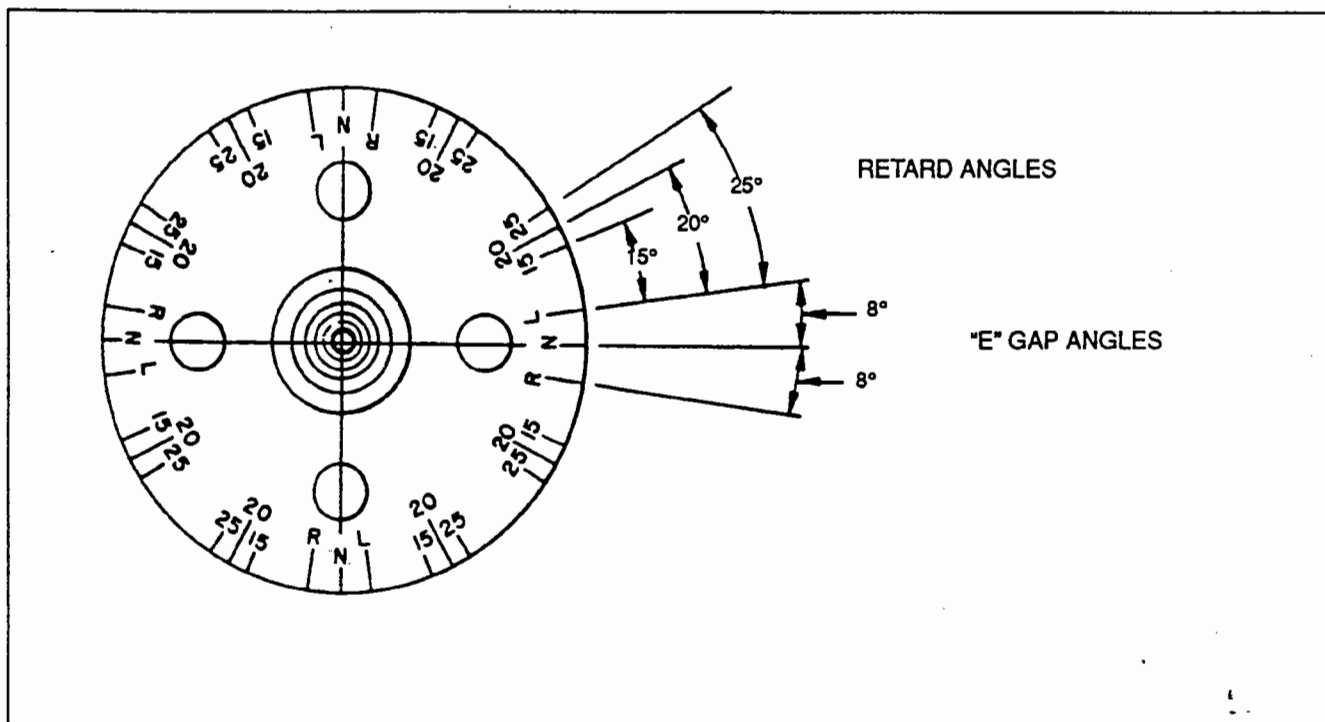
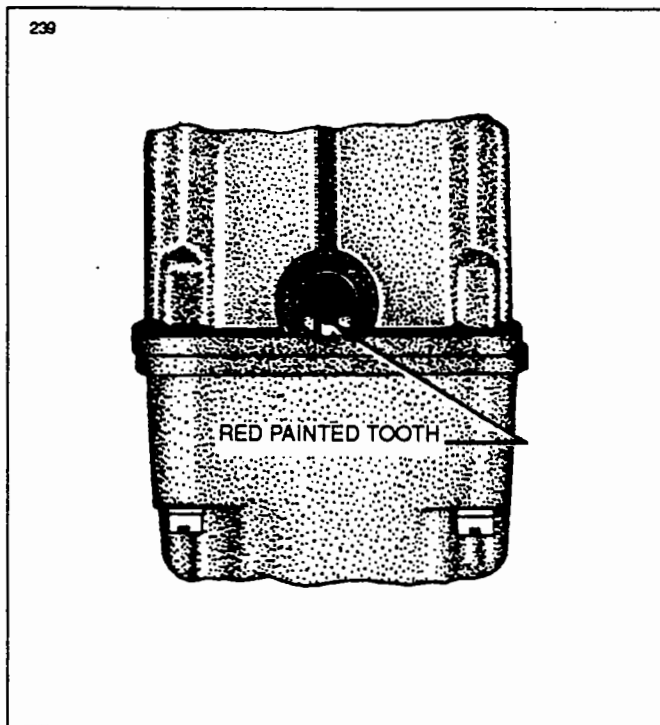

Figure 74-5. Timing Marks on Magneto Rotor
Figure 74-6. Painted Tooth Centered in Timing Window
2. The magneto incorporates a built-in pointer and a degree wheel with sufficient reference to assist the mechanic in magneto timing procedures. Printed upon the rotating magnet are marks to indicate magneto neutral and magneto "E" gap (8°). (Refer to Figure 74-5.) Also included are retard angle references of 15, 20 and 25 degrees. These marks are set up for either clockwise (R) or counterclockwise (L) rotation of the magneto as viewed from the magneto drive end. The timing tooth of the large distributor gear is marked with red paint. (Refer to Figure 74-6.)